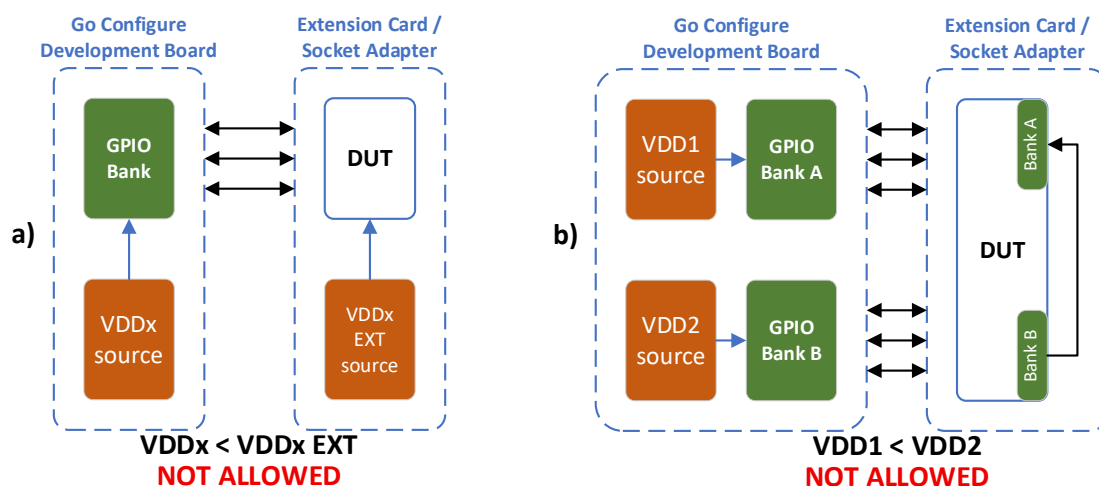

Figure 16. Reverse Current Cases
1. The user selects one of the internal V_{DDx} channels as power source and applies to it an external power supply in runtime (Figure 16, a).
2. The user develops a design for dual V_{IO} target device and connects two GPIOs (Output → Input OR Output → Output) from different GPIO banks with different V_{IO} values through a jumper. In this case, the same sequence of turning off power switches will be initialized (Figure 16, b).
Figure 16 shows both cases.